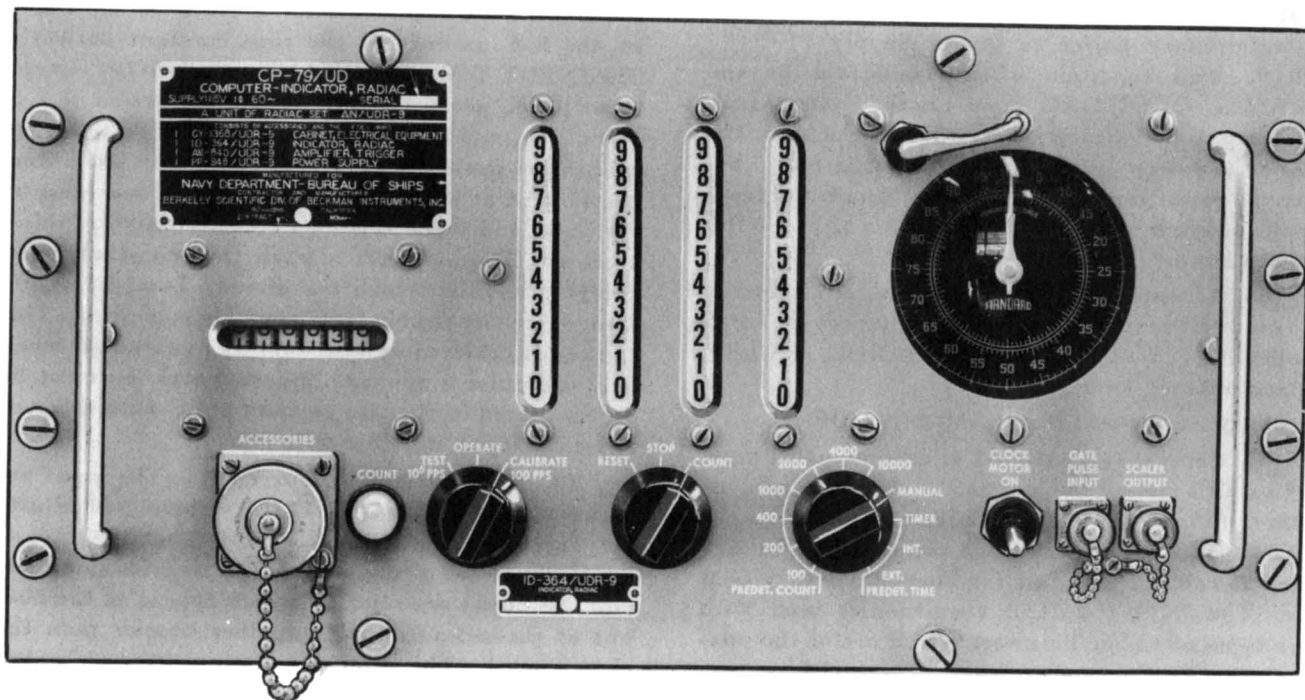

Figure 4-3. Radiac Indicator ID-364/UDR-9, Front Panel Controls
(1). General.—Figure 4-3 shows the location of controls on this unit. Radiac Indicator ID-364/UDR-9 operates manually or automatically to indicate on a register and lamp panels the total number of counts for a given time interval, or by separate selection, enables the time required for a predetermined number of counts to be measured by a clock.